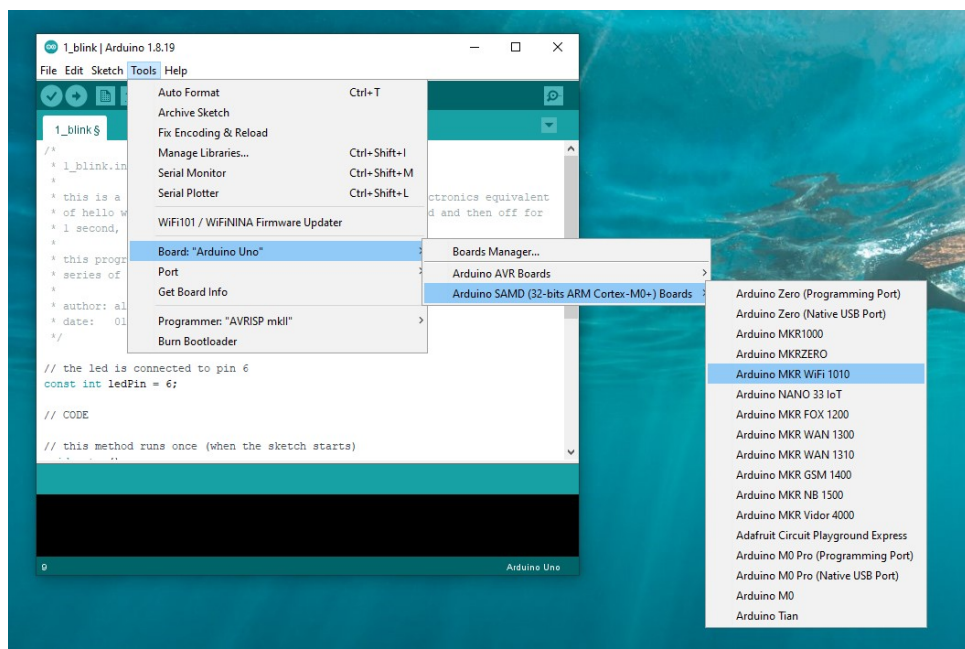

Figure 4 – Choosing the correct board
4. Now select the correct board (Arduino MKR WiFi 1010) and serial port (see Figures 4 and 5).